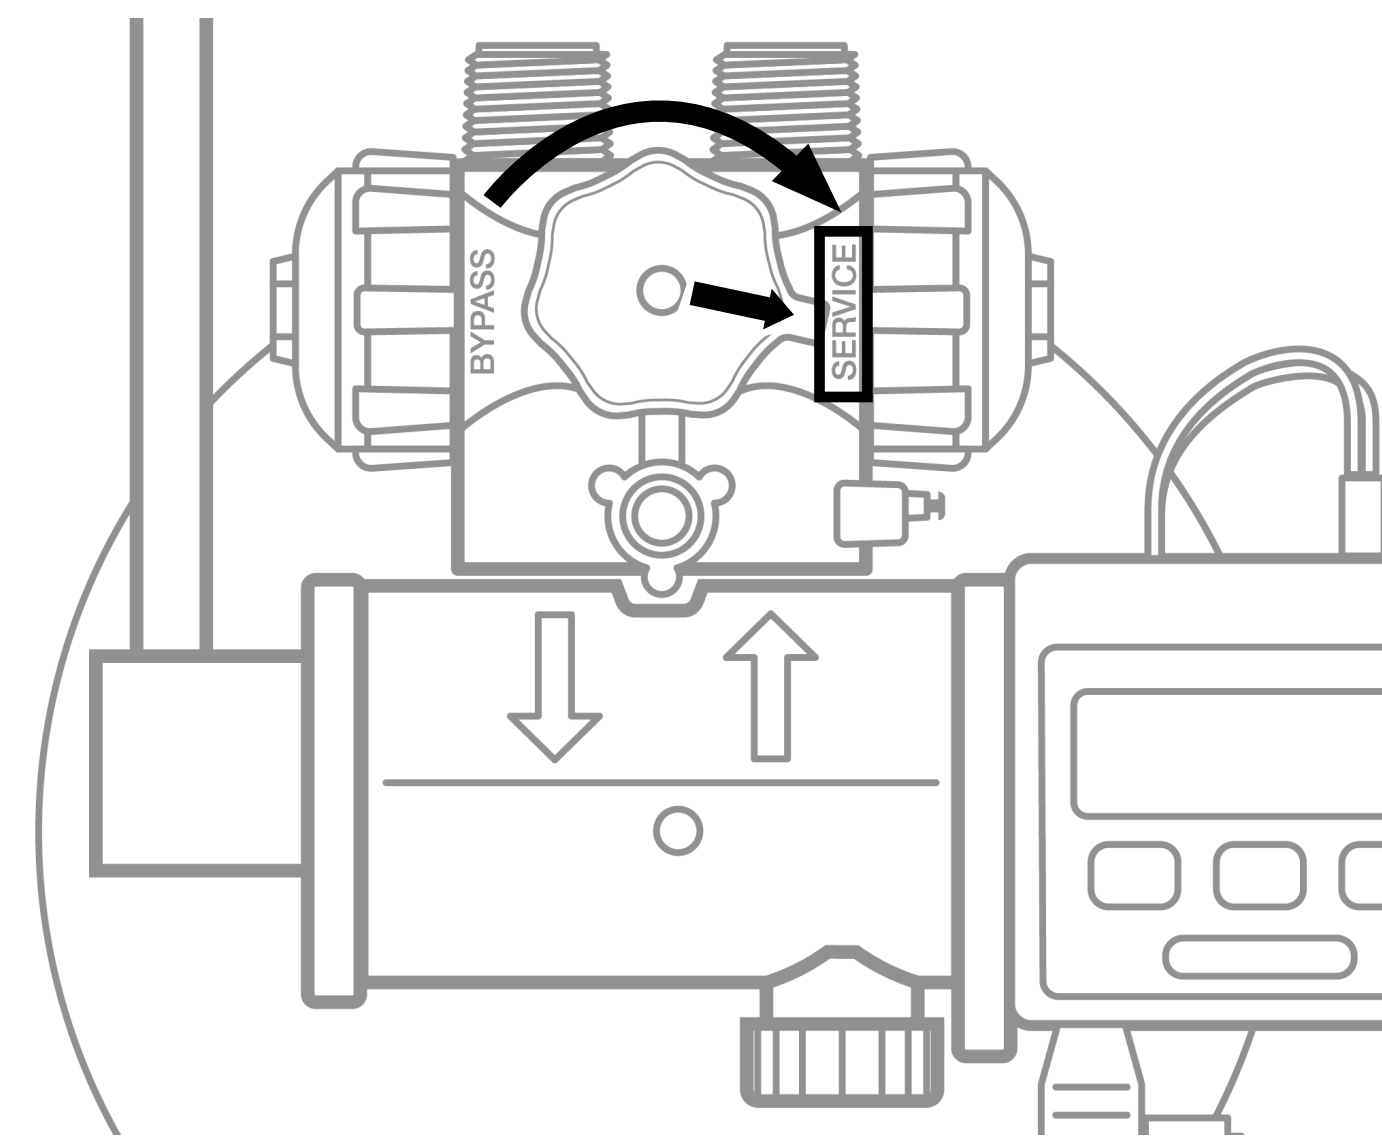

Figure 6: Service Position
- 8. Place the appliance in the Service position to slowly fill the media tank. (See Figure 6)
1. Ensure that the appliance is in the Service position. (See Figure 6)